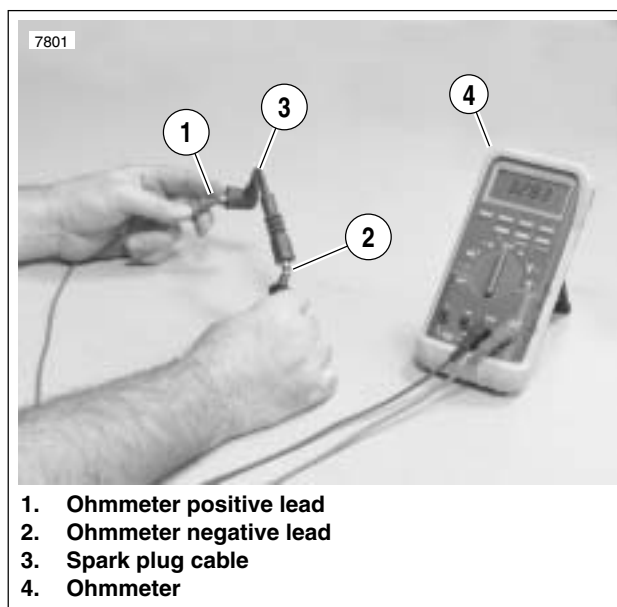

Figure 7-29. Testing Resistance
3. See Figure 7-29. Check spark plug cable resistance with an ohmmeter. Replace cables not meeting resistance specifications of 2375-5833 ohms.